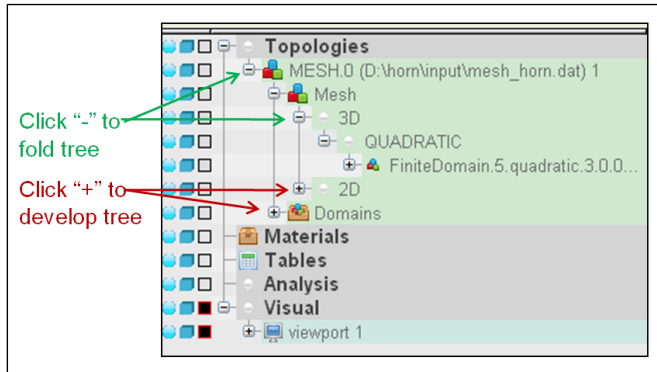

Figure 6.2: Develop and fold the trees
- Left-click on the "+" and "-" signs in the **Topology tree** to develop or fold the trees, respectively (see **Figure 6.2**).